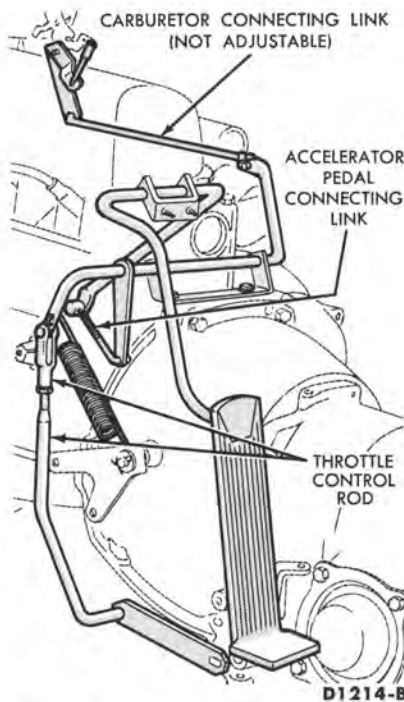

FIG. 1—Throttle Linkage—PBZ and PCF Models
6. With the engine stopped, disconnect the throttle control rod at its clevis end (Fig. 1). Loosen the clevis locknut.
6. **Perform the pressure test quickly to avoid overheating the transmission.** Increase the engine speed to 1200 rpm and note the gauge reading. If the pressure reading is below specification (Table 2, Part 6-3), the throttle control rod clevis must be rotated to shorten the rod (Fig. 1). If the pressure reading is more than specification, the clevis must be rotated to lengthen the rod.